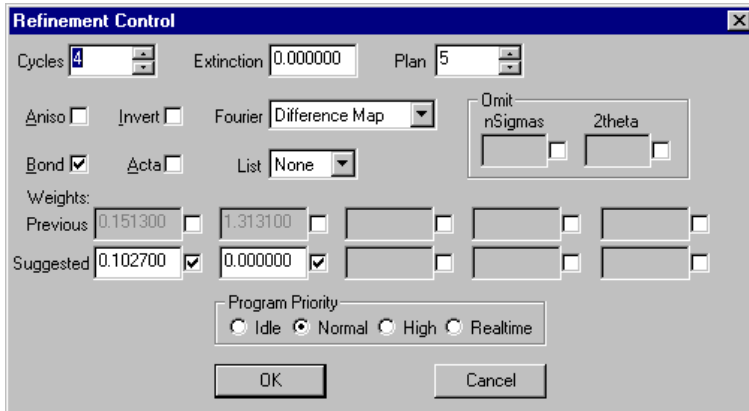

Figure 6-35. Refinement control
41. Click the Refine button at the top of the XSHELL Menu. A panel will appear (Figure 6-35).